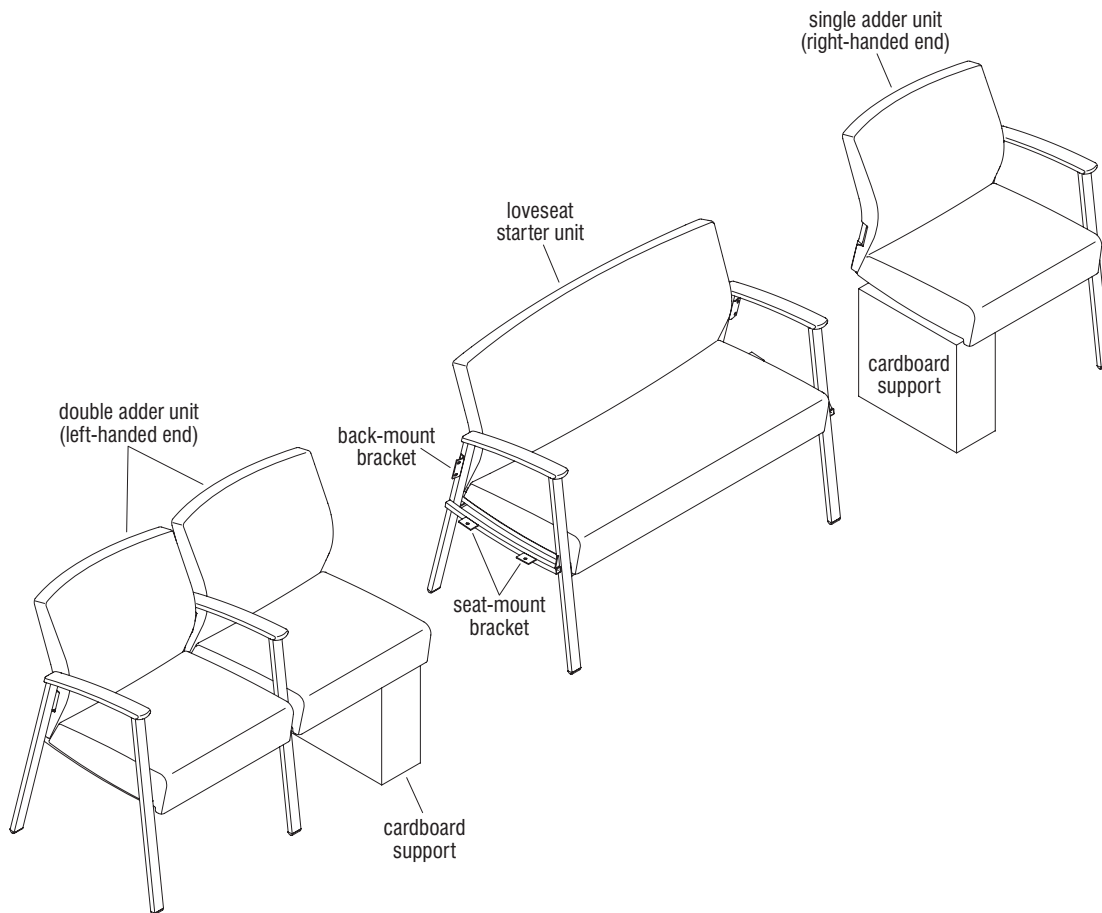

Figure 1
1. Carefully un-pack all contents from packaging. Use the cardboard supports to temporarily stabilize adders in the upright position. Arrange seating in approximate location per the space-planning layout, leaving a gap between the units to be joined together (Figure 1).